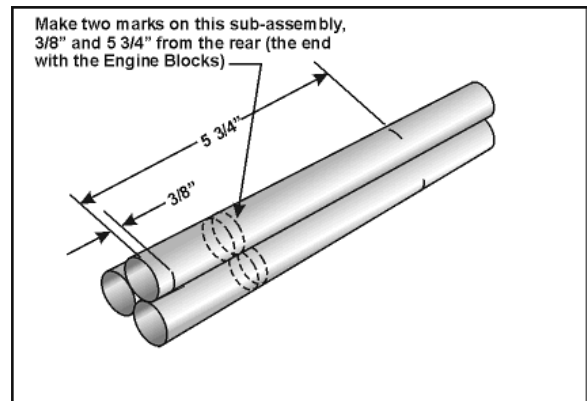

Figure 4
4. Referring to **Figure 4**, make one mark on EACH Engine Tube,  $\frac{3}{8}$ " from the bottom (**NOTE:** Make these marks in the crevice between tubes, as shown). Make a second mark on each Engine Tube  $5\frac{3}{4}$ " from the bottom, as shown.